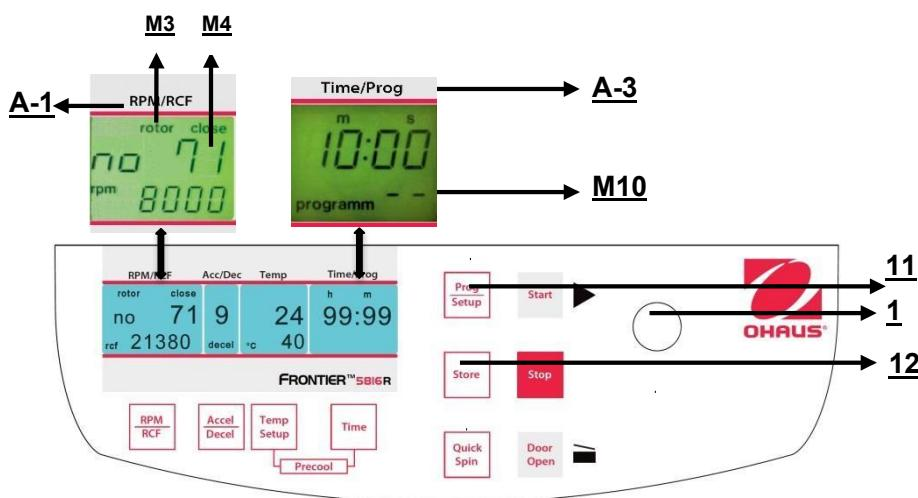

Figure. 28
To recall stored programs press the key "**Prog/Setup**" (11) (refer to figure 28) while the lid is already closed. Inside the display "**Time/Prog**" (A-3), "**programm -**"(M10) appears. The desired program number can be pre-selected with the adjusting knob (1).
To leave the program mode just press the key "**Prog/Setup**" (11) (refer to figure 28). Then inside the display "**Time/Prog**" the word "**programm**" appears.